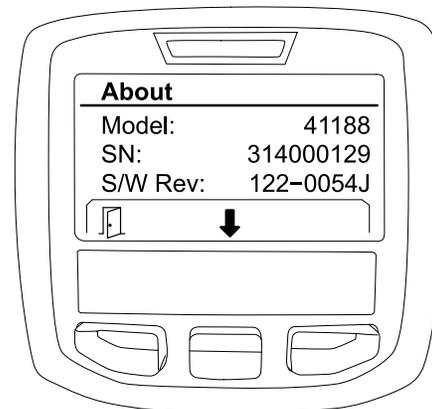

Figure 37
- Use the middle selection button to scroll through the about screen items (Figure 37).